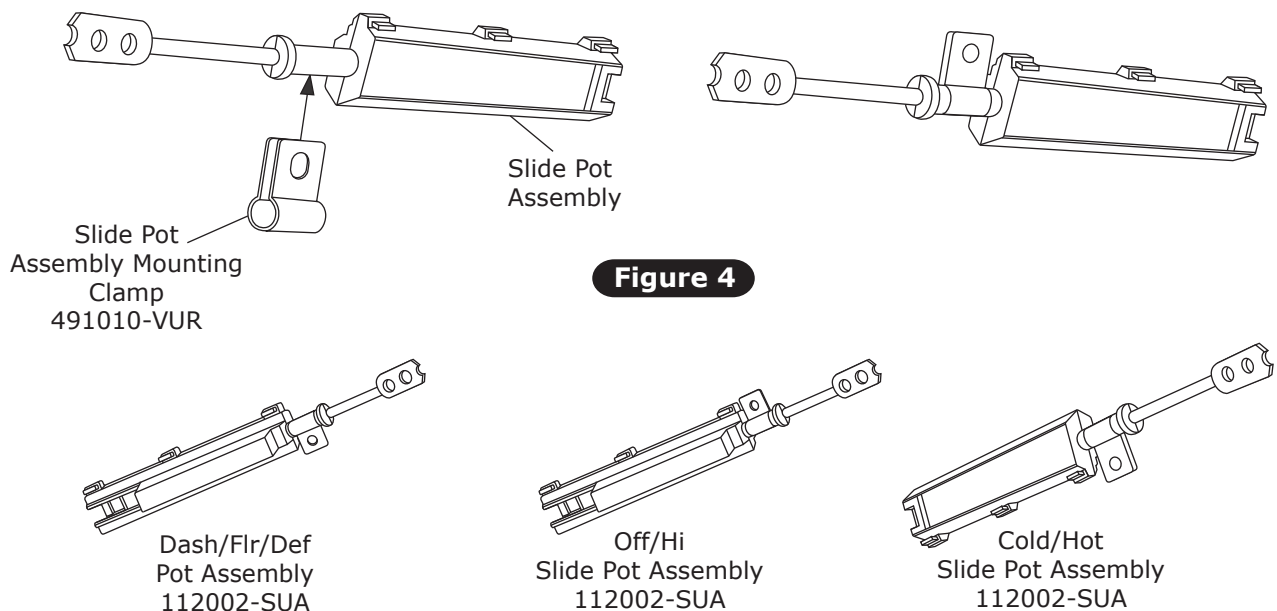

Figure 4
1. Install slide pot assembly mounting clamps (See Figure 4, below).
2. Orient slide pot and install mounting clamps as shown in Figure 4, below. **NOTE: Orient clamps in relation to the (3) housing snaps on slide pot assembly.**